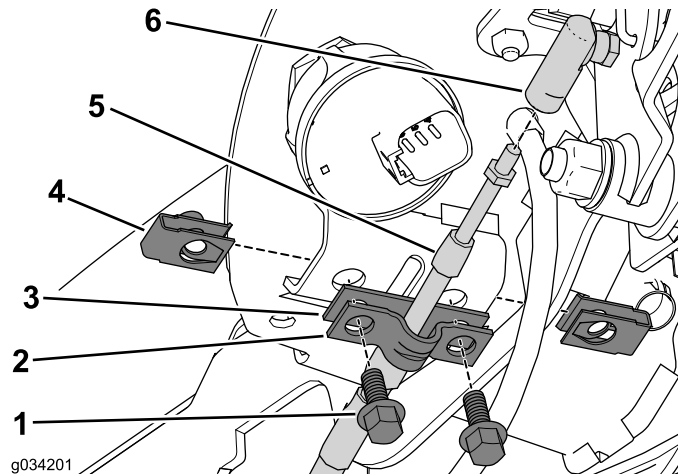

Figure 5
1. Remove the 2 bolts and clip nuts securing cable clamp and shim to the console assembly (Figure 5).
2. Set aside the cable clamp and discard the shim (Figure 5).
3. Disconnect the neutral-lock cable from the cable connector (Figure 5).